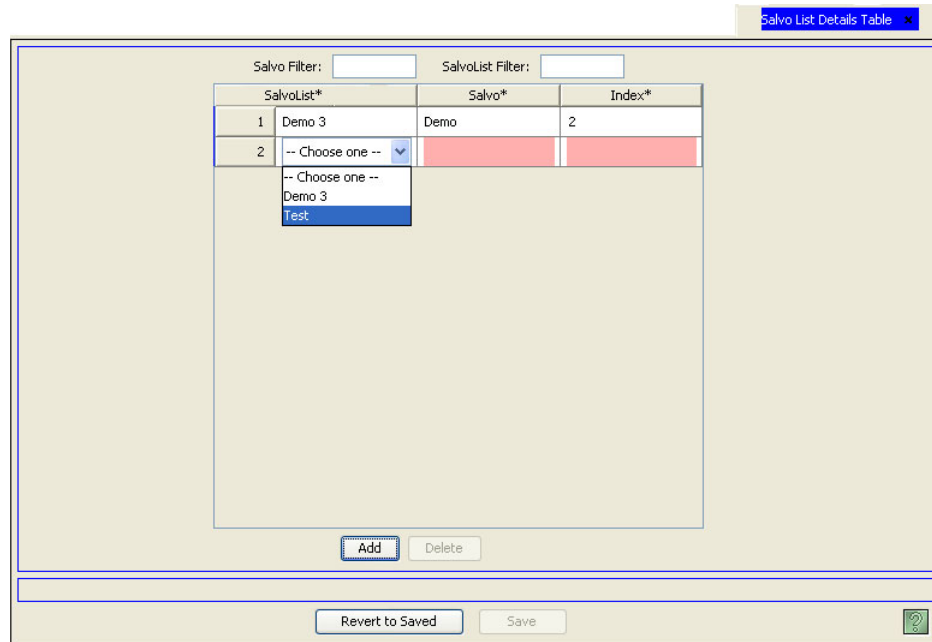

Figure 15-9. Salvo List Details Table
- 1 From the Navigation area, select the ‘Views’ pane and then ‘Salvo List Details’. The ‘Salvo List Details’ table appears, as shown in Figure 15-9.